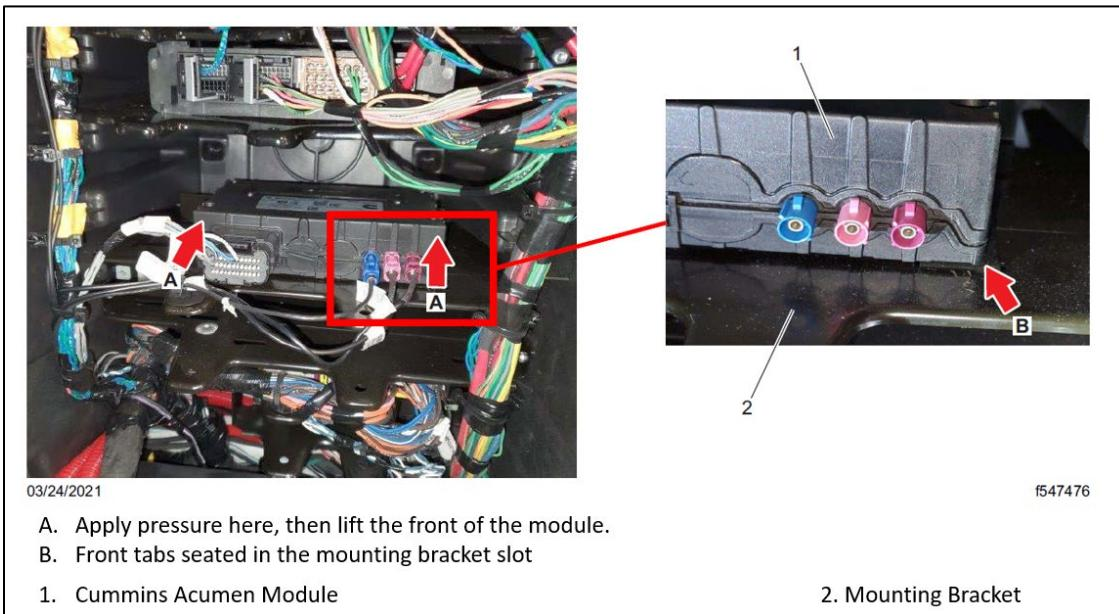

Fig. 9, Cummins Acumen Module Removal
2. Remove the Cummins Acumen module from the electronics bay by applying light pressure at the front of the module in order to push it backwards, then lift it to release the front tabs. See Fig. 9.